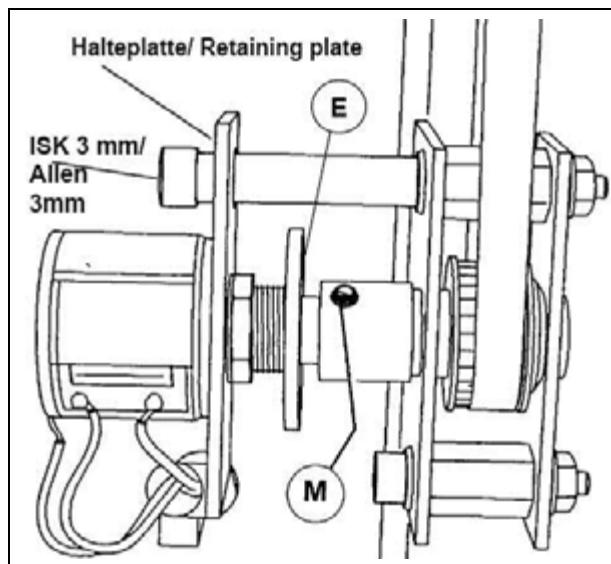

Fig. 4: Replacing the potentiometer
- Move the unit so that the set screw becomes accessible (\(M/Fig. 4 / p. 35\)).
- Remove the Allen 1.5 mm set screw on the connecting piece of the potentiometer shaft (\(M/Fig. 4 / p. 35\)).
- Remove the potentiometer retaining plate (\(ISK 3 mm/Fig. 4 / p. 35\)).
- Remove the adjustment wheel (\(E/Fig. 4 / p. 35\)) and the retaining parts from the potentiometer shaft.
- Set the ADC value to the corresponding value using the adjustment wheel (\(E/Fig. 4 / p. 35\)) (Refer to the detailed description for the corresponding potentiometer).